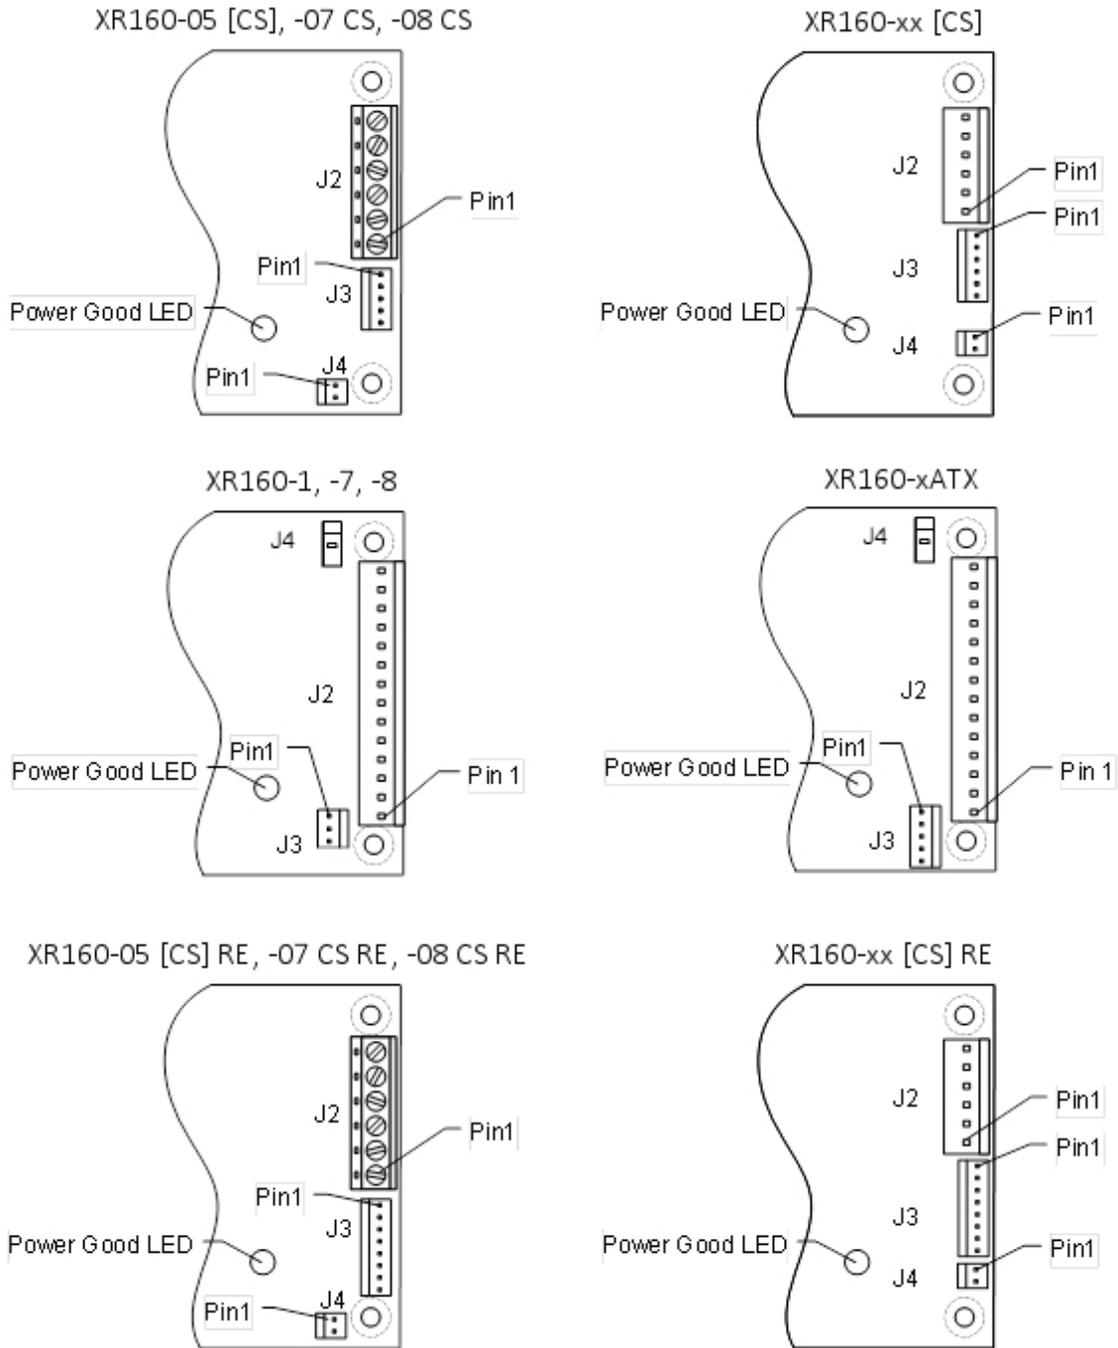

Figure 4-3 XR160 Output Connectors Layouts
- Refer to Figure 4-3 for connector and pin-1 locations
A green LED on all models illuminates whenever the Power-Good signal is true (high). See Figure 4-3 for the LED location near the output connector. At turn off, V2 is clamped via a diode to +5V output to insure 2.5 / 3.3V never exceed 5V output by 0.6V during turn-off.